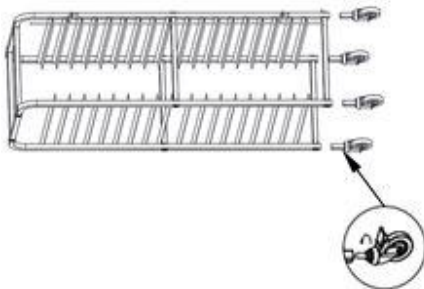

Fig. 2:
10. Finally, screw swivel casters into square tubing of lateral sections. (Fig. 2)